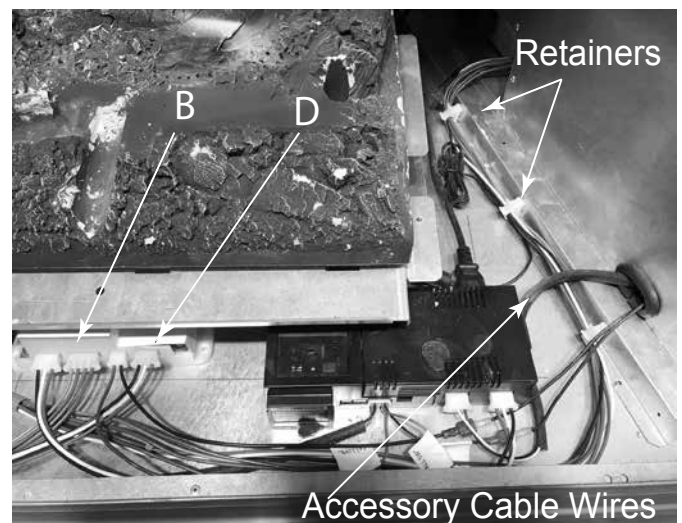

Figure 8.3 Connectors
- Plug 3-pin and 4-pin connectors into the appropriate connector B and D on the power vent control module. See Figure 8.3.